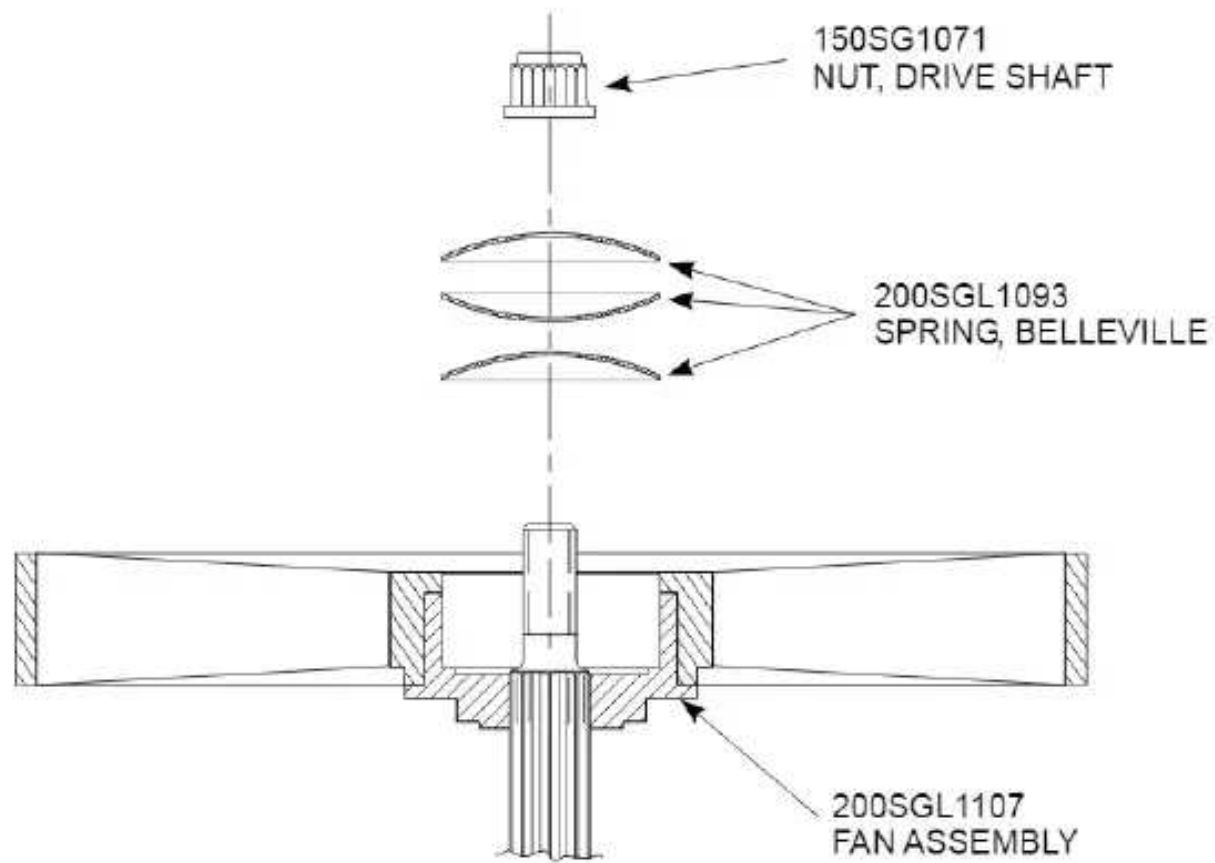

Figure 3-8
- b. Follow the exploded views (Figures 5-1 through 5-3), disassembly paragraph 3-3 through 3-5 and the schematic wiring diagram (Figure 3-8) for reassembly information.
- o. Position the fan on the anti-drive end of the drive shaft. Install new Belleville tension springs per Figures 3-8 and 3-9. Reference Data Sheet for quantity. With suitable holding tool, hold drive shaft and install nut and gently tighten until the nut and springs bottom gently against the fan. Then, back off the nut, 3/4 of a turn. Drive shaft should